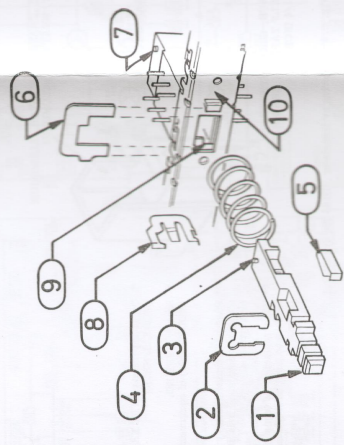

Fig. 2.4 ISOSTAT-trykknappvender med feltutløser. ISOSTAT-push button switch with interlocked action.
- A3 Switch plunger, interlock action (see Fig. 2.4, Index No. 1)